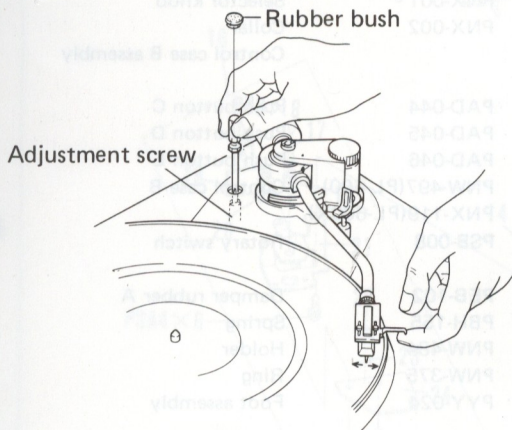

Fig. 5-1
1. Extract the rubber bush (see Fig. 5-1).